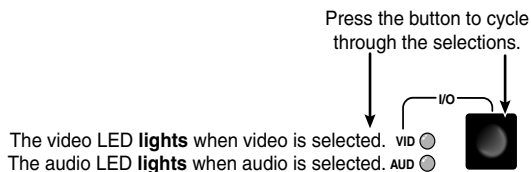

Figure 3-18 — Select video and audio
1. Select both video and audio for viewing (figure 3-18).